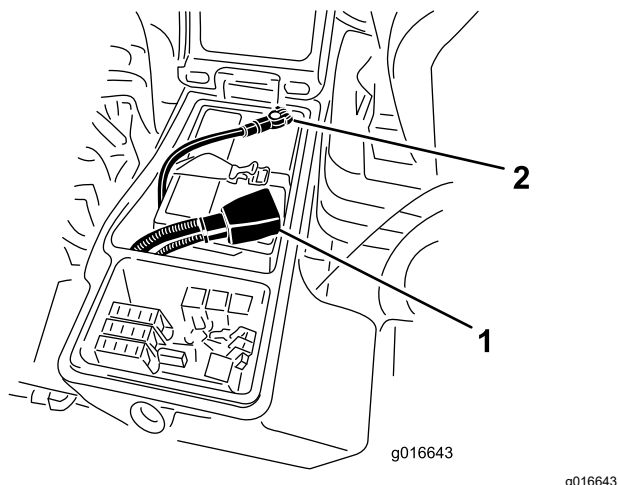

Figure 62
6. Install the positive cable (red) to the positive (+) terminal and the negative cable (black) to the negative (-) terminal of the battery (Figure 62).